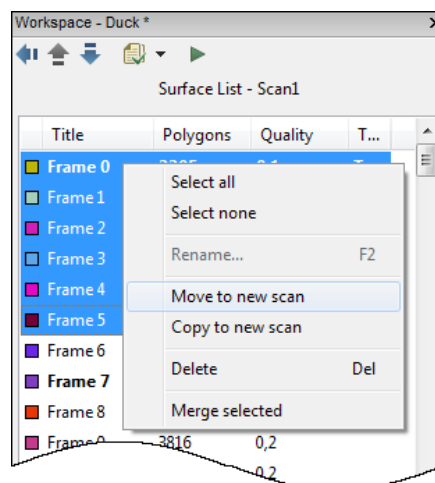

Figure 5.5: Moving some of the frames into a new scan
- In the *Surface List* panel click the **RMB** and select *Move to new scan* (figure 5.5).